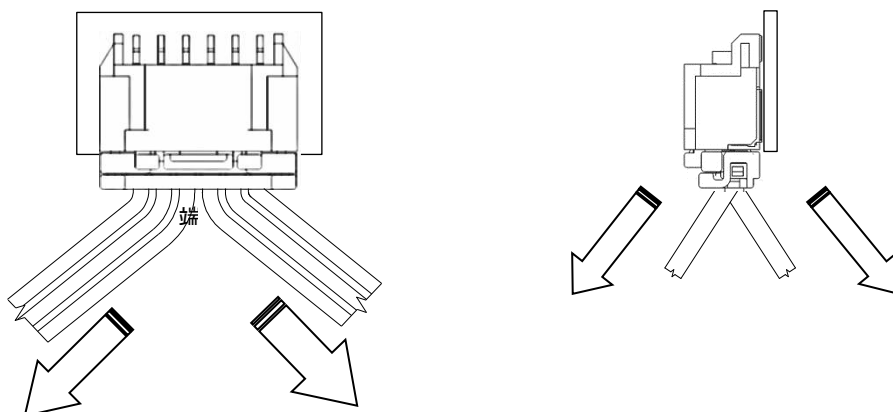

Fig.9-3-3 Wiring toward more than 2 directions
- ※Wire routing inside customer's device needs to avoid excessive stress. Please avoid pulling them toward more than two directions. **(Fig.9-3-3)**